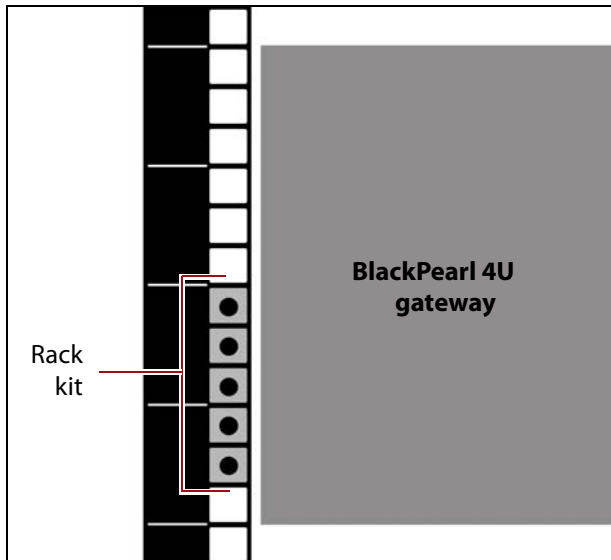
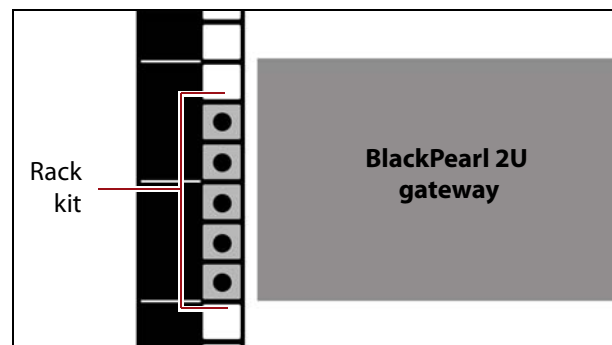

Figure 14 Relationship between the rack kit position and the position of the BlackPearl 4U chassis.
Figure 15 Relationship between the rack kit position and the position of the BlackPearl 2U chassis.
6. Determine the position of the rack mount kit in the rack. Figure 14 and Figure 15 show the relationship of the rack kit position in the rack and the resulting position of the chassis.